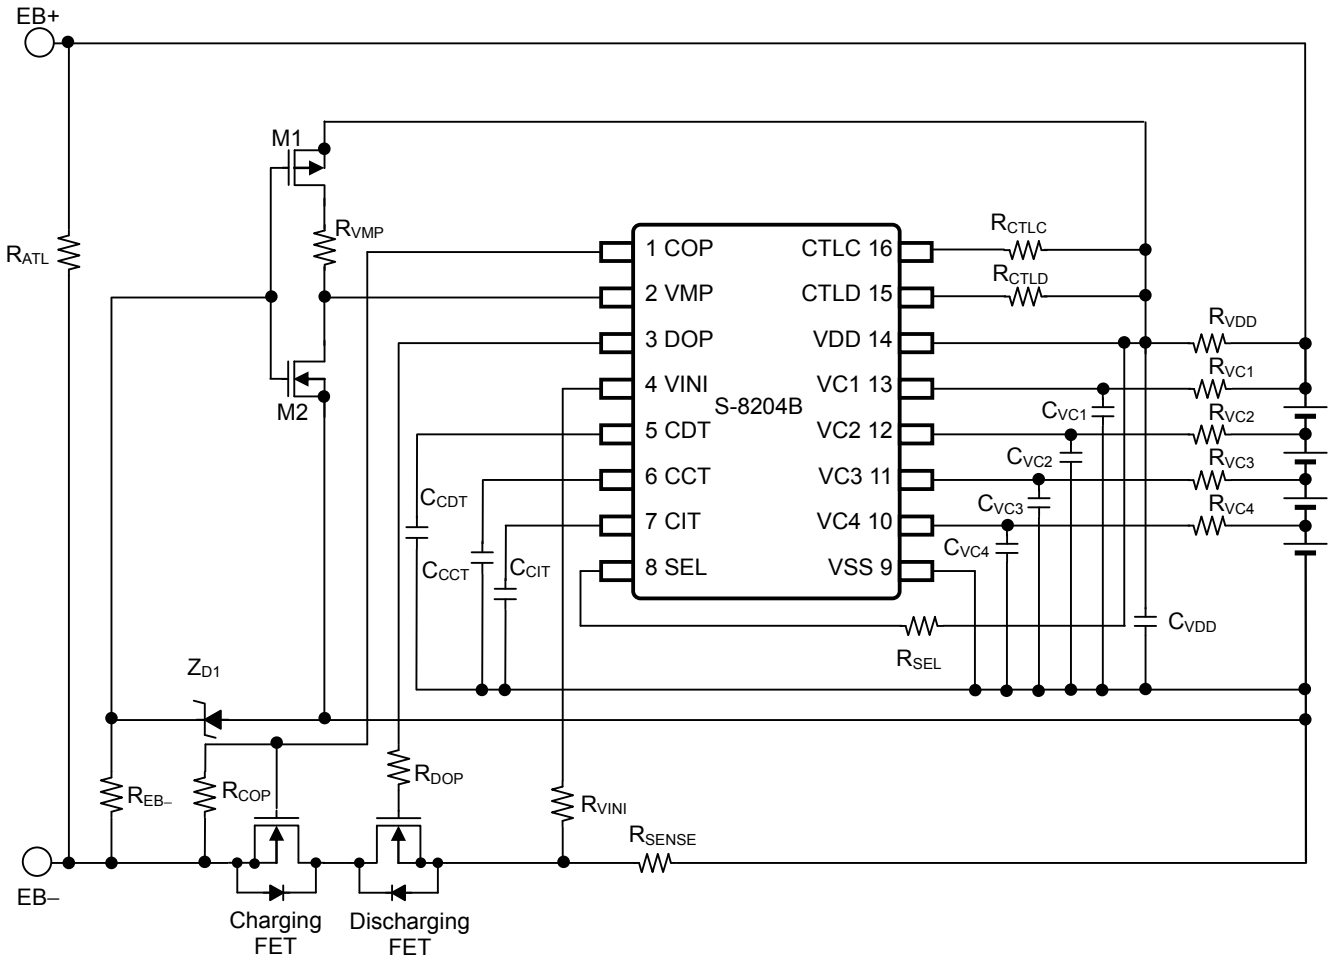

Figure 11
■ **Timing Chart (in the circuit in Figure 11)**
Table 9 Constants for External Components (in the circuit in Figure 11)